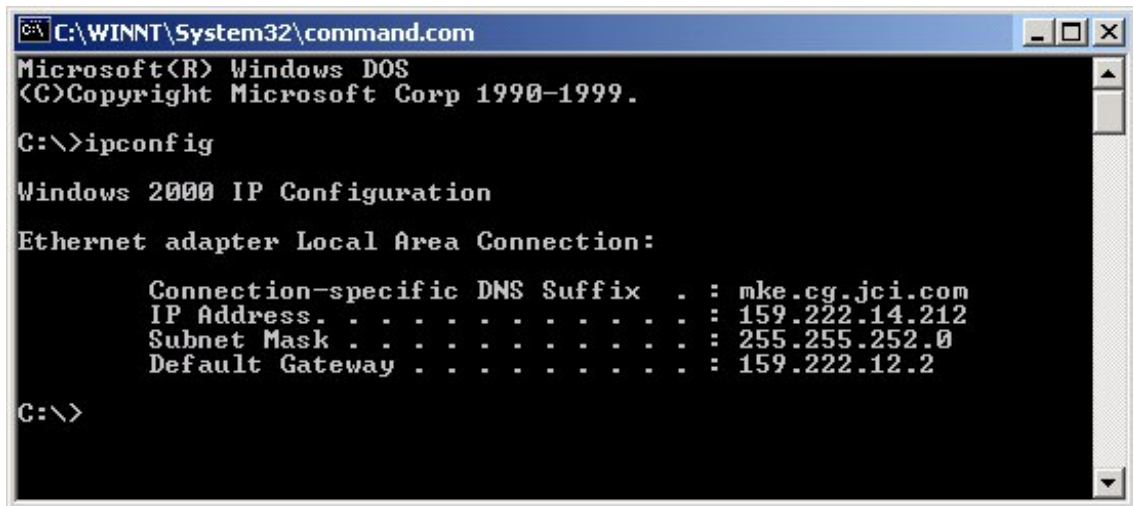

Figure 31: DOS Command Screen with IP Configuration Information
3. At the C:\> prompt, type **ipconfig** and press Enter. The IP Configuration information appears (Figure 31).